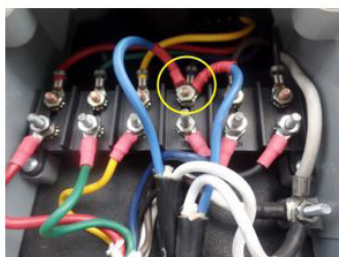

Figure 17: 7-Way Nose Box
- Check to see if the 7-way nose box is equipped with circuit breakers (see Figure 17), as the problem may be a failing circuit breaker. Either replace circuit breaker with a new part or connect the blue wire from the Select Controller to the unprotected side of the circuit breaker. Circuit protection is provided by the 30 amp fuse inside the Select Controller.